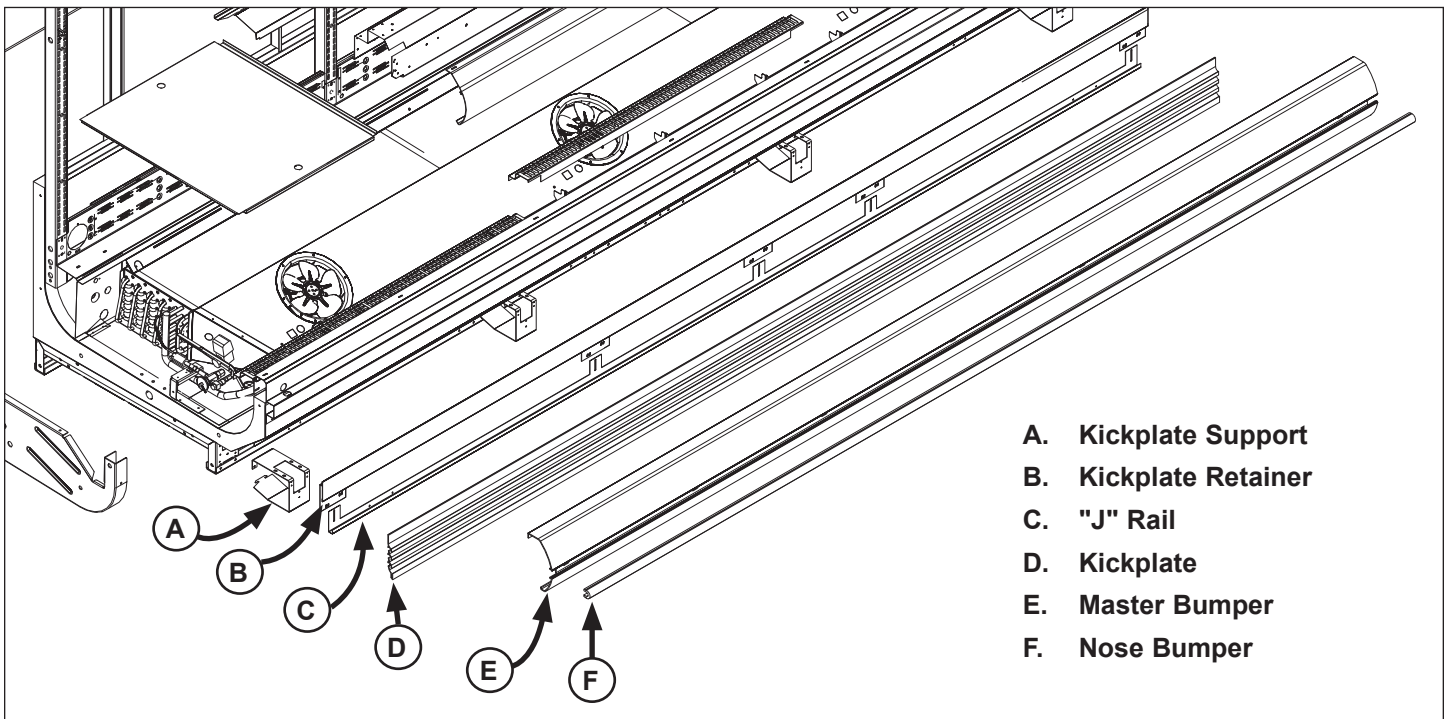

Fig. 8 Front assembly
12. If the case is outfitted with a polymer bumper, insert the nose bumper into the open bumper channel (Fig. 8), up to 96 feet. Hillphoenix recommends leaving an additional 6 inches of nose bumper at the ends to allow for shrinkage during the first 24–48 hours following case start-up—after sufficient time has passed, cut away the excess bumper for final fit and finish. Be certain to use an appropriate cutting tool (tubing- or PVC-cutter) to ensure a smooth cut.